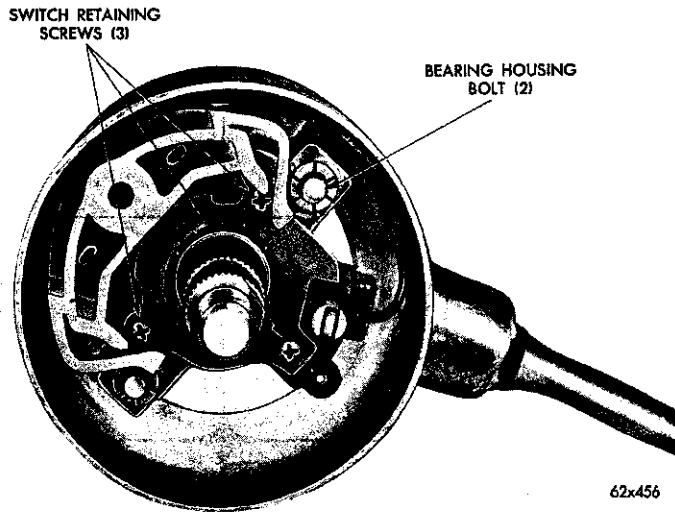

Fig. 3—View of the Steering Column-Upper End
- (1) Remove the 3 recessed head switch retaining screws, as shown in Figure 3.
- (2) Pull the turn signal switch and switch plate up and out, feeding the wires and connectors through the steering column jacket.
- (3) Disengage the column jacket lower seal from the lip on the jacket, and slide the seal down toward the coupling.